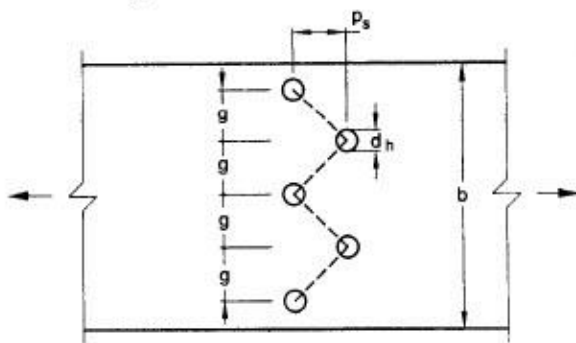

FIG. 5 PLATES WITH BOLTS HOLES IN TENSION
- g = gauge length between the bolt holes, as shown in Fig. 5,
- p_s = staggered pitch length between line of bolt holes, as shown in Fig. 5,